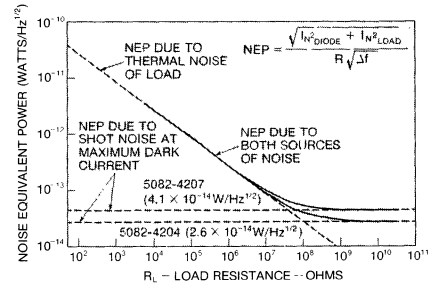

Figure 8. Noise Equivalent Power vs. Load Resistance.
- Exceeding the Steady Reverse Voltage may impair the low-noise properties of the photodiodes, an effect which is noticeable only if operation is diode-noise limited (see Figure 8).